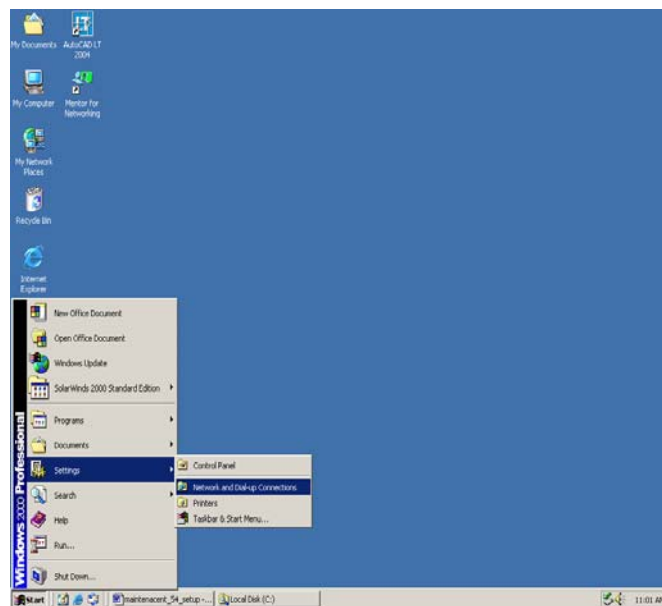

Figure A-1.1 Windows 2000 Professional Desktop
1. From the desktop click Start, Settings, Network and Dial-up-Connections (see Figure A-1.1).